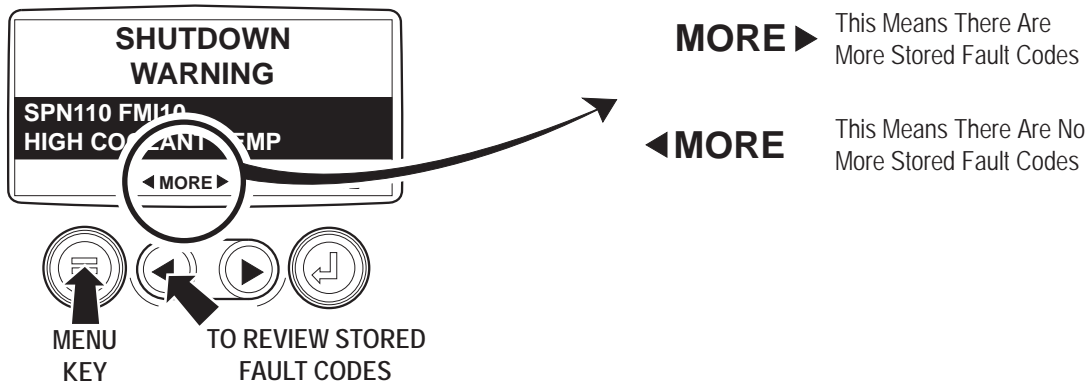

Figure 7 - Stored Fault Codes
4. Once the stored fault codes have been retrieved, the initial code will be displayed along with a text description. See Figure 7.